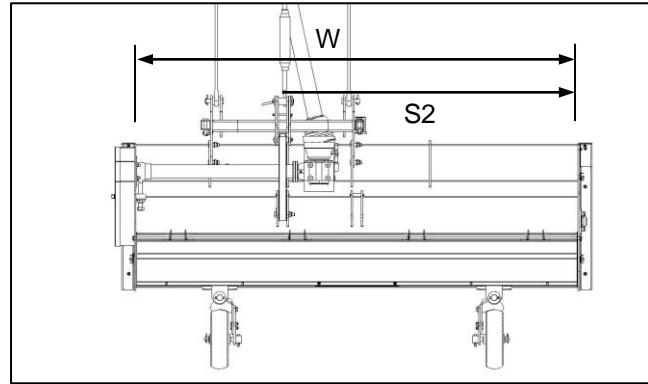

Fig. 7
- ✓ Maximum offset position (Fig. 7) S2 = Working width (W) minus 1 000 mm.
- ✓ Maksimumkontraposisie (Fig. 7) S2 = Werkswydte (W) minus 1 000 mm.